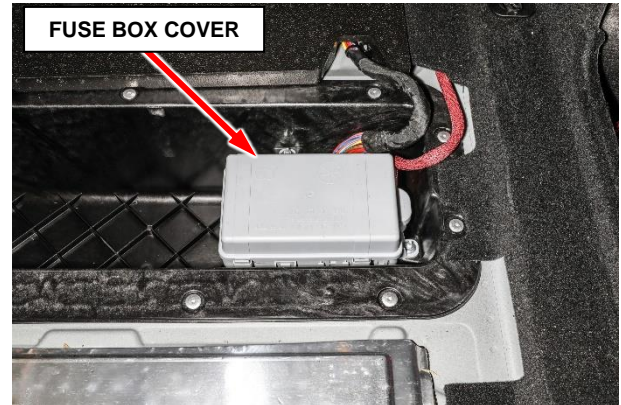

Figure 4 – Fuse Box
5. Remove the cover from the fuse box in rear of the vehicle (Figure 4).
25. Install the fuse box cover (Figure 4).